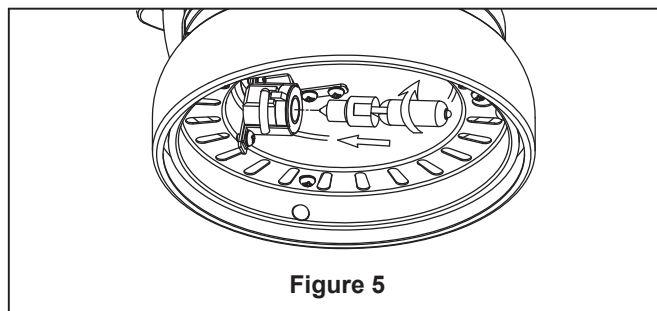

Figure 5
- ☐ 5. Insert light bulb into socket. (Figure 5)
- ☐ **5.** If airflow is desired in the opposite direction, turn the fan off and wait for the blades to stop turning. Then slide the reverse switch on top of motor assembly to the opposite position and turn fan on again. (Figure 5)
- ☐ 5. Carefully secure the motor assembly onto the mounting slots on ceiling bracket assembly with the upward-clockwise, quarter-turn twist. (Figure 5)